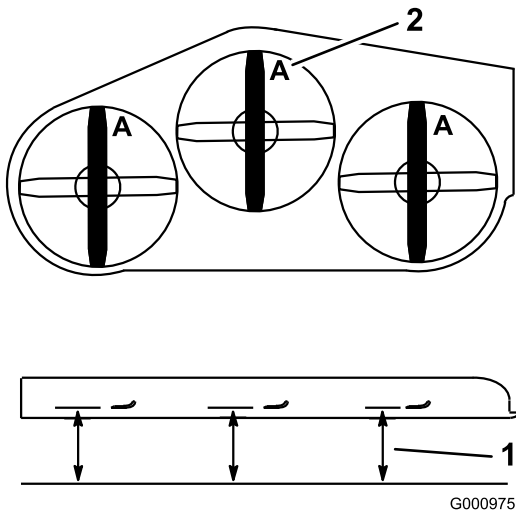

Figure 74
3. With the machine on level surface, position one blade front-to-rear. Measure at **A** and from level surface to the cutting edge of the blade tips (Figure 74).